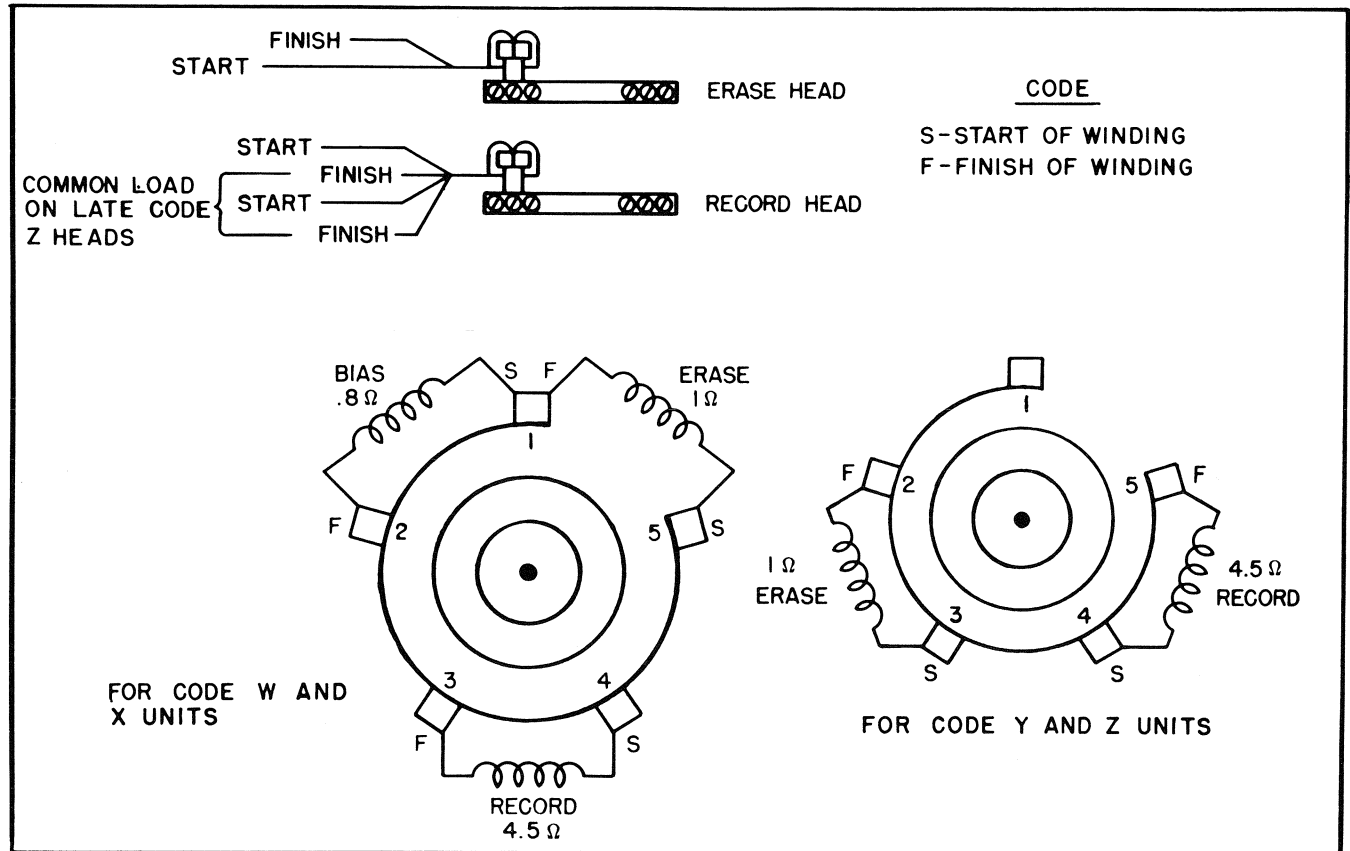

Figure Z-3. Coil Identification and Connections
b. Use a low voltage AC supply and an AC voltmeter to check continuity of the head coils (see figure Z-3 for terminal configuration).
l. The pole pieces having been removed, the resistance of the coils can be checked without danger of magnetization. Remove twine and tape from terminal ring (3, figure Z-2) and carefully unsolder and remove the two leads from the terminal (1, figure Z-3). The resistance of the coils will be approximately as indicated in figure Z-3. Shorted coils should be replaced.
m. Should it be necessary to replace a coil (bias and record coils must be replaced as a set), carefully disconnect the leads from the terminal ring (3, figure Z-2). Refer to figure Z-3 for connections.
n. Coils must be connected as shown in figure Z-3. Coils and leads are identified as follows:
(1) Erase Coil - Wound with heavier gage wire than record-playback coil. Coil has two tinned leads and the longer lead is the start of the winding.